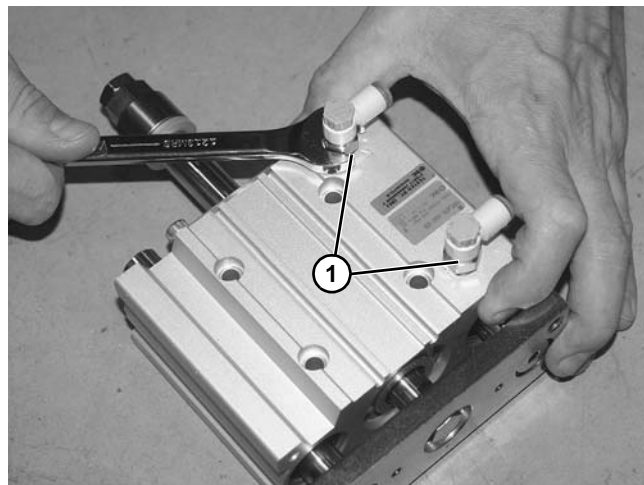

Figure 129
12. Remove two fittings (Figure 129, item 1) from cylinder.